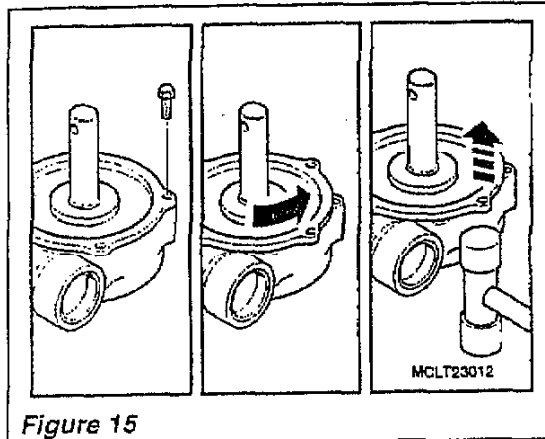

Figure 15
3. Turn gearcase side plate to break the seal and lift the plate from the gearcase. See Figure 15.